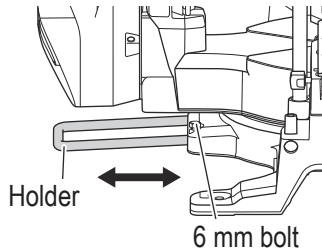

Fig. 5
6. Base holder adjustment (Fig. 5)